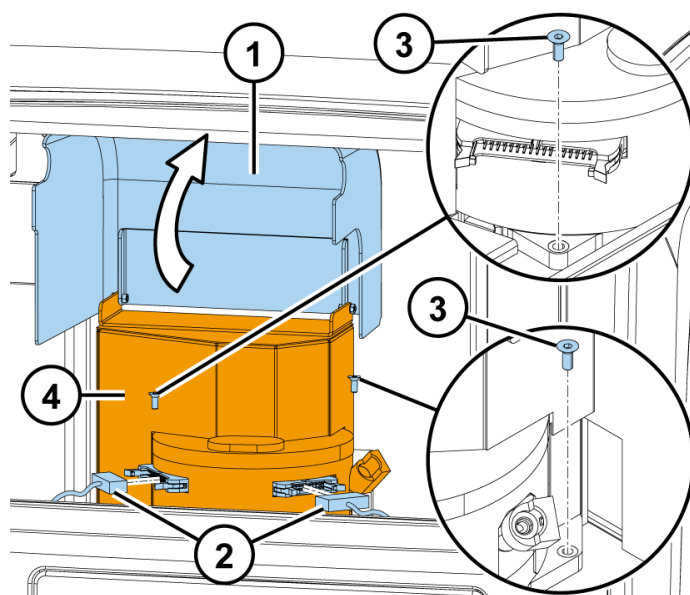

Figure 5–48 Removing the LAT module
3. Remove the LAT module according to Figure 5–48.